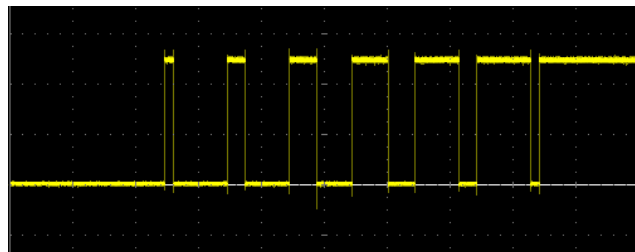

Figure 2-3 Typical PWM Soft Start cycle
- **Soft Start** - As shown in **Figure 2-3**, a soft start increases the PWM duty cycle gradually from 0% up to the configured steady-state value. This feature is useful in preventing premature burnout of devices (such as incandescent bulbs) caused by too rapid heating on startup.